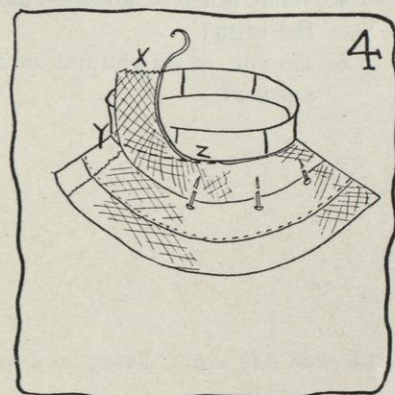

FIG. 4.
- (1) Start the hair braid $1\frac{1}{2}$ inches above top headsize wire at the point where the last full row touches the headsize (see point X in Figure 4). This $1\frac{1}{2}$ inches prevents the raw edges from fraying. Pin the short row in place, as shown in Figure 4.
- (2) Sew at the finished edge of that row, as shown in Section f, but be sure to make a few back stitches across the braid at bottom headsize wire (see points Y and Z of Figure 4) to prevent the cut edge from fraying.